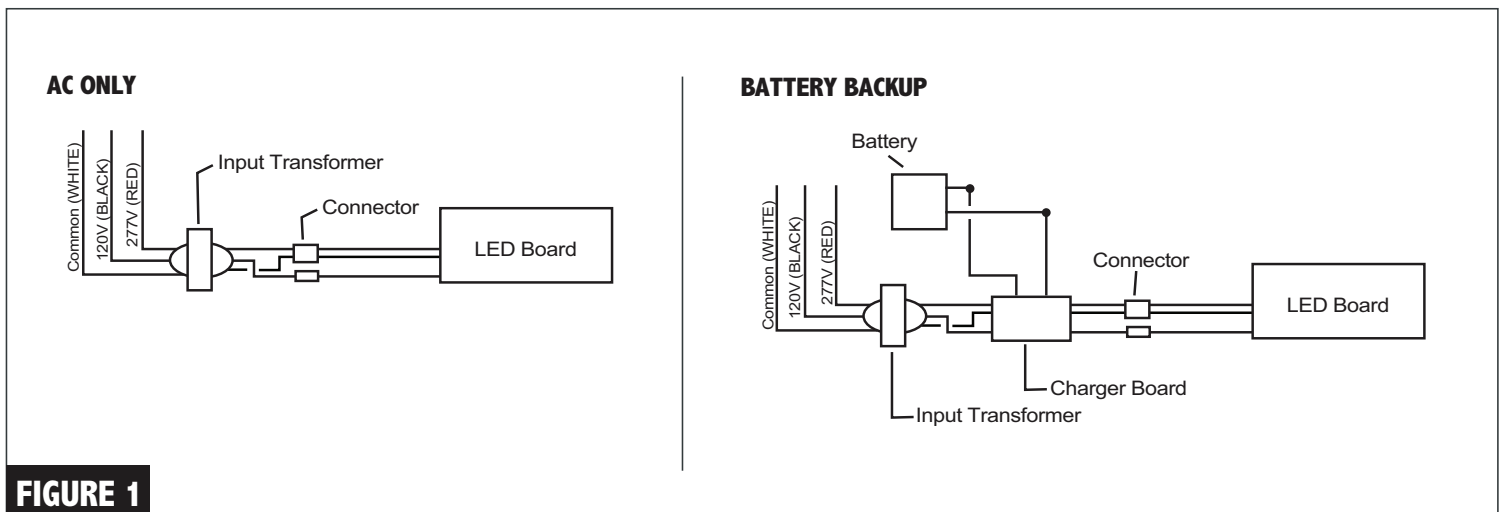

FIGURE 1
1. Mount the equipment securely in place. The provided (4) mounting screws and (4) anchors are for mounting to surfaces suitable for use of such hardware as Stucco, Concrete, or similar surfaces. If mounting to surfaces where machine type screws and anchors (such as toggle bolts) or other types of anchoring hardware will be necessary, this hardware must be provided in the field by the installer. Consult factory for assistance if needed.
2. Extend 24-hour AC supply of rated voltage to the equipment, which is furnished with a dual voltage 120V/277V field selectable input (see Figure 1 on page 2). Connect unit to utility power using an approved seal tight connector or NEMA4X connector. The unit should be DRILLED for the connector in the proper location as it relates to the location of the entry point of the power feed coming into the unit. There are various places inside the unit that are suitable for this incoming power location. For 120V supply, connect the line wire to the black lead for 277V supply, connect the line wire to the orange/red lead. Connect neutral wire to the white lead. Connect the ground wire in accordance with local codes. **DO NOT** energize circuit at this time.